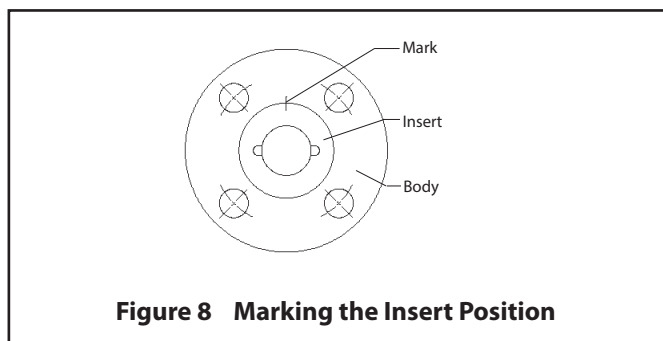

**Figure 7 Stem Orientation**
- D. Roll the entire valve on its flanges until the bonnet faces up. Then rotate the stem ¼ turn. The stem subassembly should look like (**Figure 7**) as seen from the insert end of the valve.